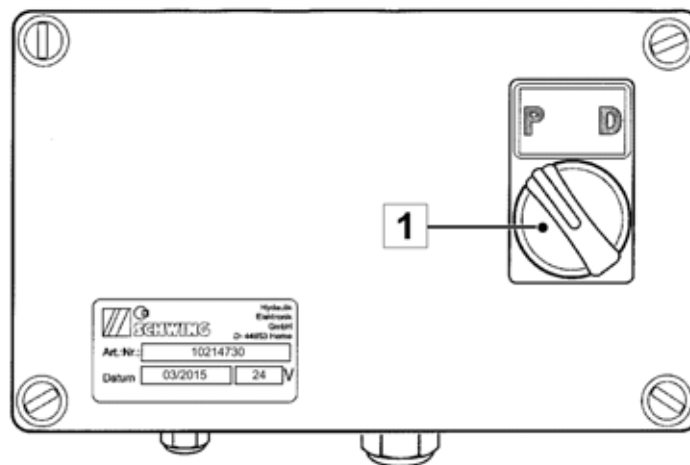

Fig. 110 E-box
- Then set the switch (1) on the e-box (**Fig. 110**) from position "D" for "Drive" to "P" for "Pump".